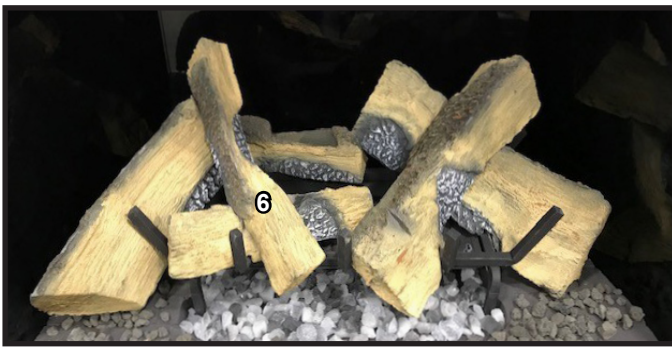

Figure 33 Log #6 Installed
33. Reinstall Log #6. See Figure 33.